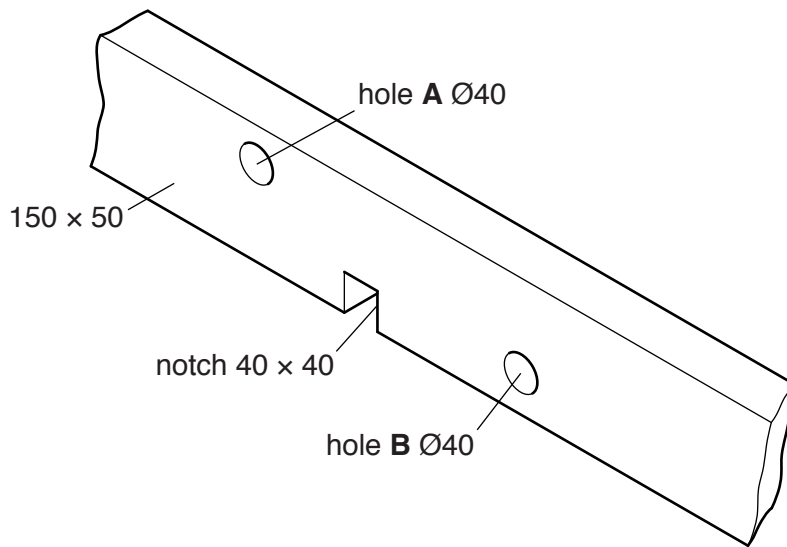

Fig. 9
- (d) A wooden beam that is part of the floor structure in a house has to be cut to allow heating pipes and power cables through. Fig. 9 shows three possible ways of making the cut.